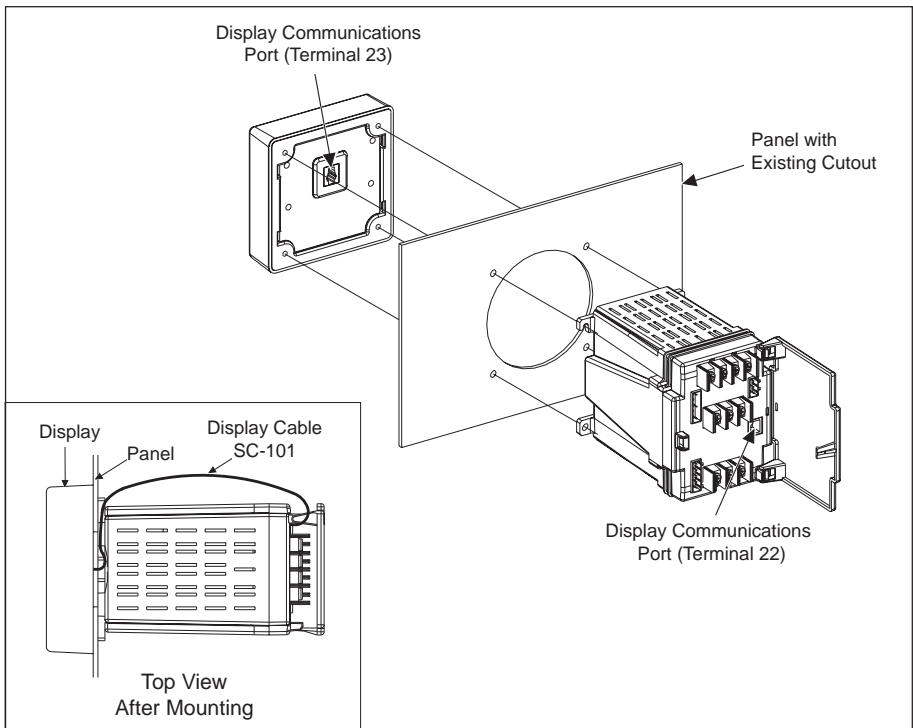

Figure 4-1: Mounting power meter and display on panel with existing ammeter/voltmeter cutout
- display mounted on front of a power equipment panel; power meter module mounted on back of panel (figure 4-1, page 15)
2. Position the display against the front of the panel. From the other side of the panel, line up the mounting holes in the panel with the mounting holes in the display (see figure 4-1, page 15).
3. Plug one end of the 1-foot communications cable provided with the display into the display communications port (terminal 23, figure 4-1) on the back of the display.
4. Hook the power meter mounting feet onto the top two display mounting screws protruding from the back of the door or panel. Route the cable to the right (hinged side) so it is not pinched between the power meter module and the panel (figure 4-1).
6. Plug the other end of the communications cable into the display communications port (terminal 22, figure 4-1) on the power meter.